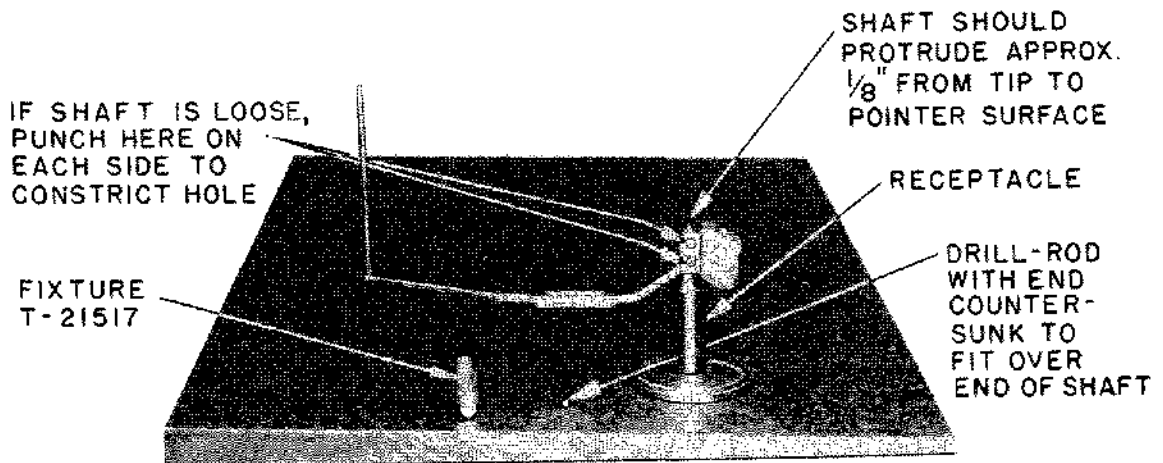

FIGURE 16 METHOD OF SUPPORTING THE POINTER FOR POINTER SHAFT RENEWAL
2. With the pointer resting on the receptacle T-27484 as shown in Fig. 16, the shaft may be driven out of the pointer with the aid of a piece of drill rod approximately 1-1/2 inches long and of a diameter slightly less than the diameter of the shaft. One end of the rod must be countersunk to conform to the angle of the pivot.
NOTE: If the shaft does not fit tightly in the hole, remove it, and punch the outside of the pointer, using a 5/32 inch flat-face punch in two places on each side (see Fig. 16) to close the hole slightly. Then insert the shaft as described above and tap it into place. The shaft must have a tight fit in the pointer hole.
4. The distance that the shaft protrudes from the pointer, measuring from the tip of the shaft to the pointer surface on the upper side when the bar is pointed up, should be approximately 1/8-inch. (See Fig. 16.)